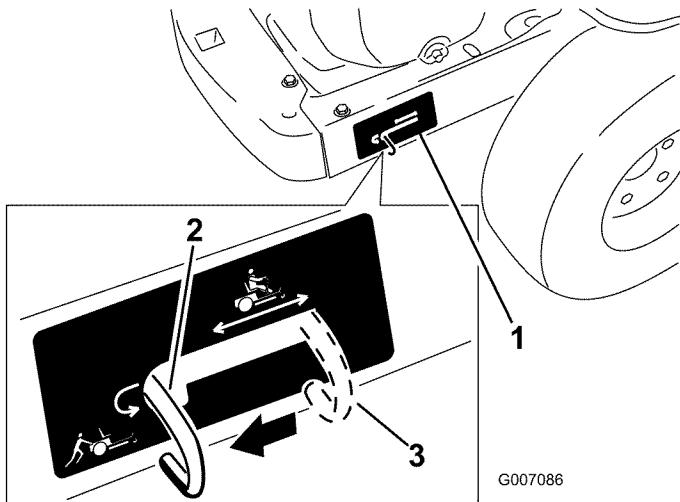

Figure 19
- Move the bypass levers rearward and then down to lock them in place as shown in Figure 19 to disengage the wheel motors. Repeat this on each side of the machine.
Move the bypass levers upward and push them forward, to the **middle** of the horizontal slot (Figure 19) to engage the wheel motors.